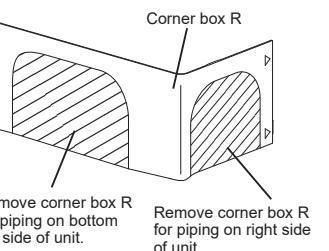

Fig. 3
- 6) Process the end of ground wire (Fig. 3). Connect it to the ground terminal of electrical parts box.
- 7) Process the end of indoor/outdoor unit connecting wire (A) (Fig. 3). Attach it to the terminal block. Be careful not to make mis-wiring. Attach the wire to the terminal block securely so that its core cannot be seen, and no external force affects the connecting section of the terminal block.